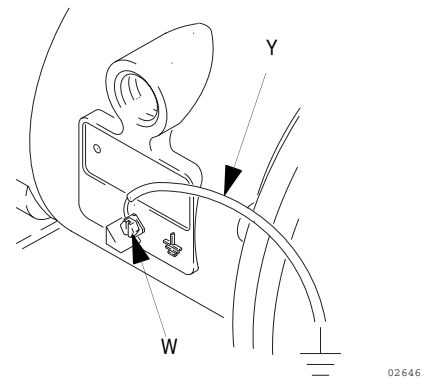

FIG. 1
- *Pump:* Connect a ground wire and clamp as shown in Fig. 1. Loosen the grounding screw (W). Insert one end of a 12 ga (1.5 mm²) minimum ground wire (Y) behind the grounding screw and tighten the screw securely. Connect the clamp end of the ground wire to a true earth ground. Order Part No. 222011 Ground Wire and Clamp.